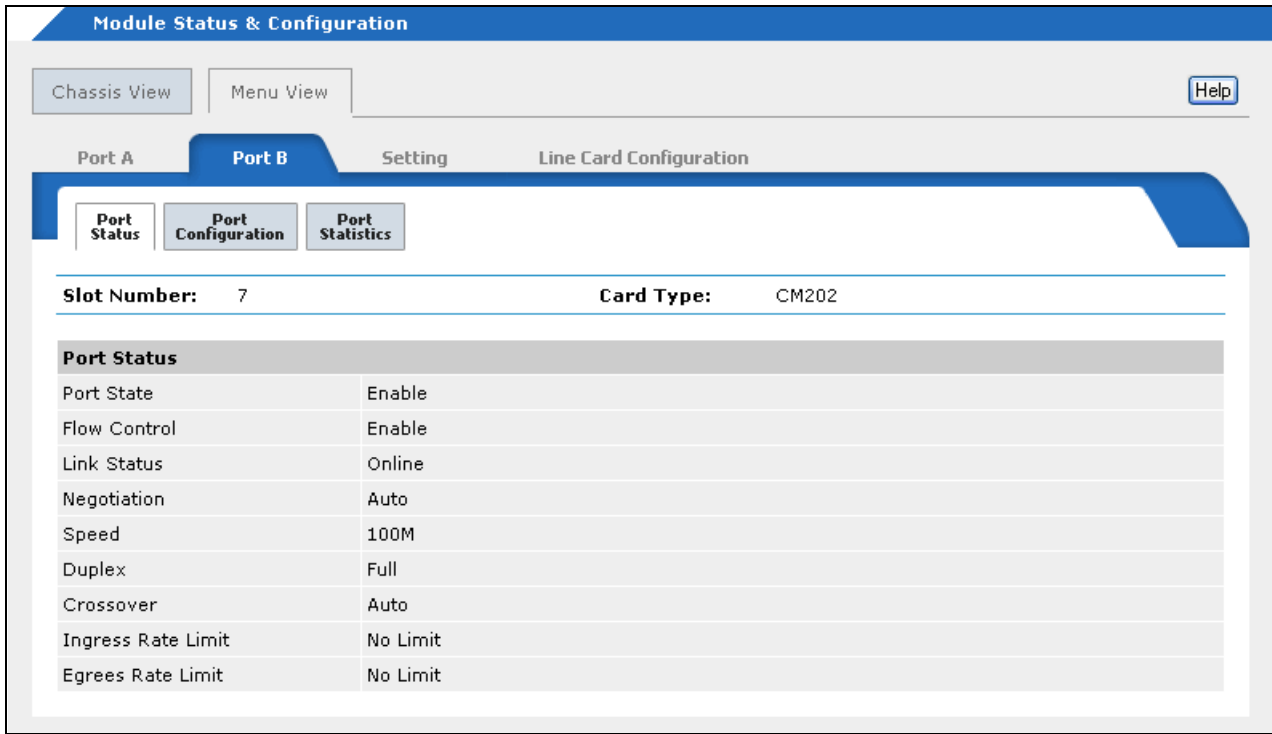

Figure 56. Port Configuration Window
- Click the **Port Configuration** tab to display the current settings of the port. The example in Figure 56 is from Port B, the twisted pair port, on a line card.